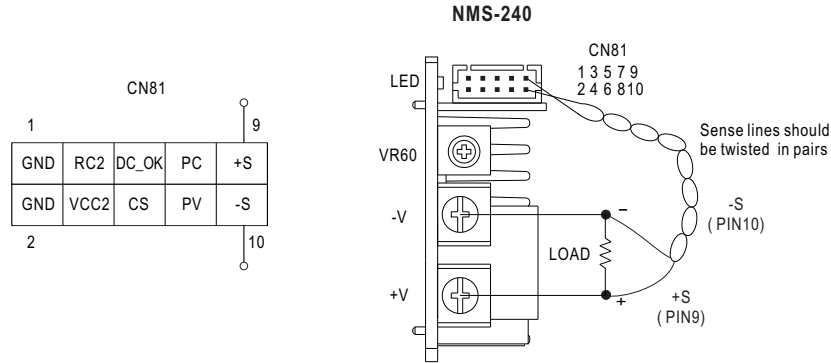

Figure 5-7 Connection diagram when using remote sense function
- ⊙ When using this function, the sensing wires should either be twisted or shielded to prevent external noise interference (refer to Figure 5-7).